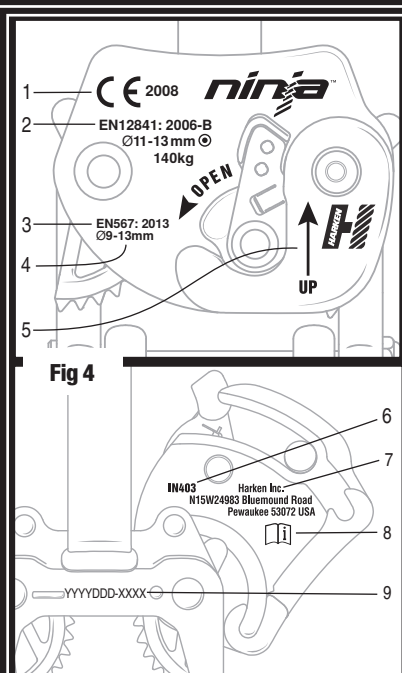

Fig 4
- Verify that the product markings are legible. **Fig 4**
Product labeling Fig 4